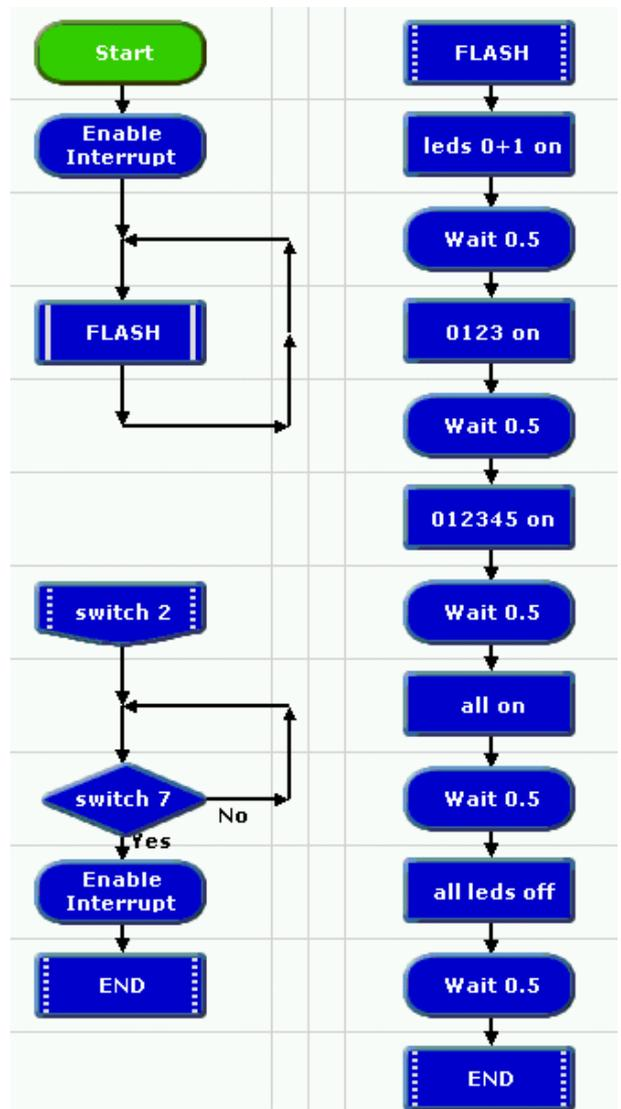

Fig 14. Using an Interrupt to freeze a flashing light sequence at any point.
However, an Interrupt checks a digital input continuously while the program carries out other actions. For example, the program shown in Fig 14 flashes the LEDs on the T-board in a continuous sequence. If you press switch 2 at any time, the sequence stops and the program waits in a Decision loop until you press switch 7 to start the sequence flashing again.
1. Build the program shown in Fig 14. Use the information below to help you.